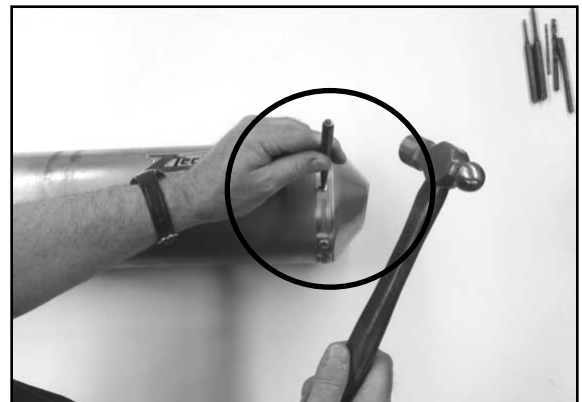

Figure 5
3. Push rivets into muffler. (Drift, 3/16" shank and Hammer.) **Figure 5.**